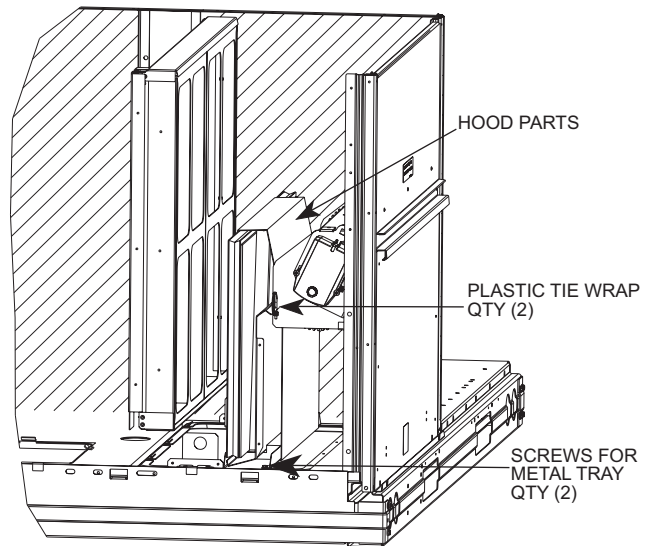

Fig. 11 — Economizer and Two-Position Damper Hood Parts Location
2. Locate the (2) screws holding the metal tray to the basepan and remove. Locate and cut the (2) plastic tie-wraps securing the assembly to the damper. See Fig. 11. Avoid damaging any wiring or cutting tie-wraps securing any wiring.